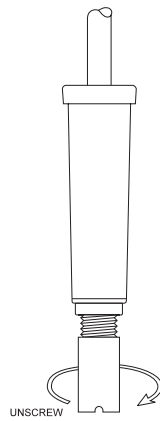

Fig. 2
- Unscrew the membrane by turning it counter-clockwise with the other hand (see fig.2)